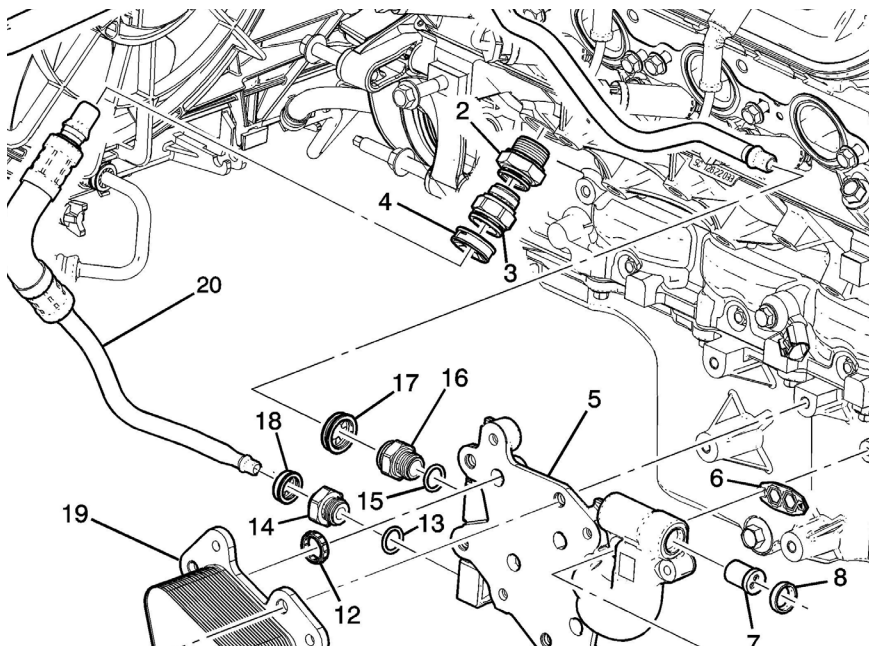

Figure 7 - Removing the Plastic Caps
3. Locate the hard lines for the factory oil cooler, then remove the plastic dust caps to permit removal of the clover-shape retaining clips securing the hard lines in the fittings, shown in Figure 7.